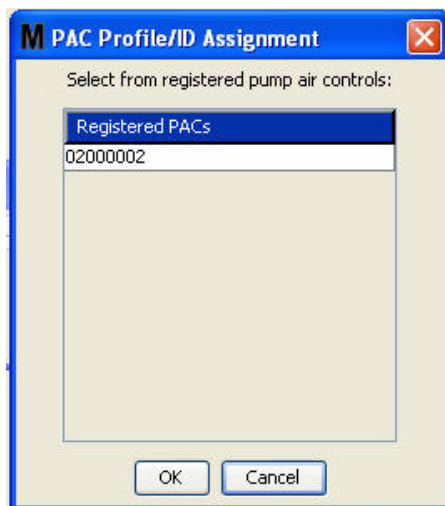

FIG. 127
4. After you have named the PAC, click the link button. The Profile/ID Assignment screen shown in FIG. 127 displays. From the list of registered Pump Air Controls, select a PAC from the list. Click OK to close the screen and save the changes. A complete description of the PAC registration procedure is provided in the Pump Air Control instruction manual. Instructions are also provided in the How to Register a Pump Air Control section in Appendix A of this manual on page 166.